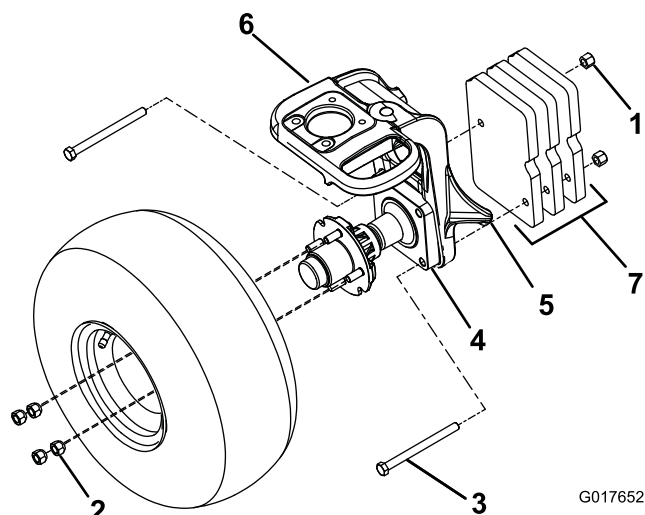

Figure 1
3. Raise the machine with a jack at the jack point (Figure 1).
7. Mount 3 weight plates from the kit to the right-hand side of the castor fork with 2 hex-head bolts (1/2 x 5-1/2 inch) and 2 locknuts from the kit (Figure 1).
4. Remove the 4 lug nuts on the wheel in pairs positioned diagonally from each other (Figure 1).
6. Remove the 2 retaining bolts that secure the spindle to the castor fork (Figure 1).